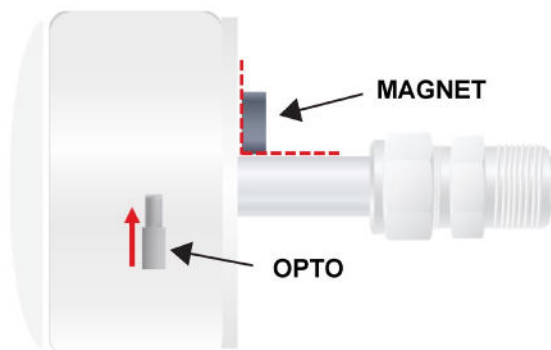

Figure 3.5.6a Magnet Placement
1. With the Opto pointing upward, place a magnet against both the head plate and the tube. (See Figure 3.5.6a)